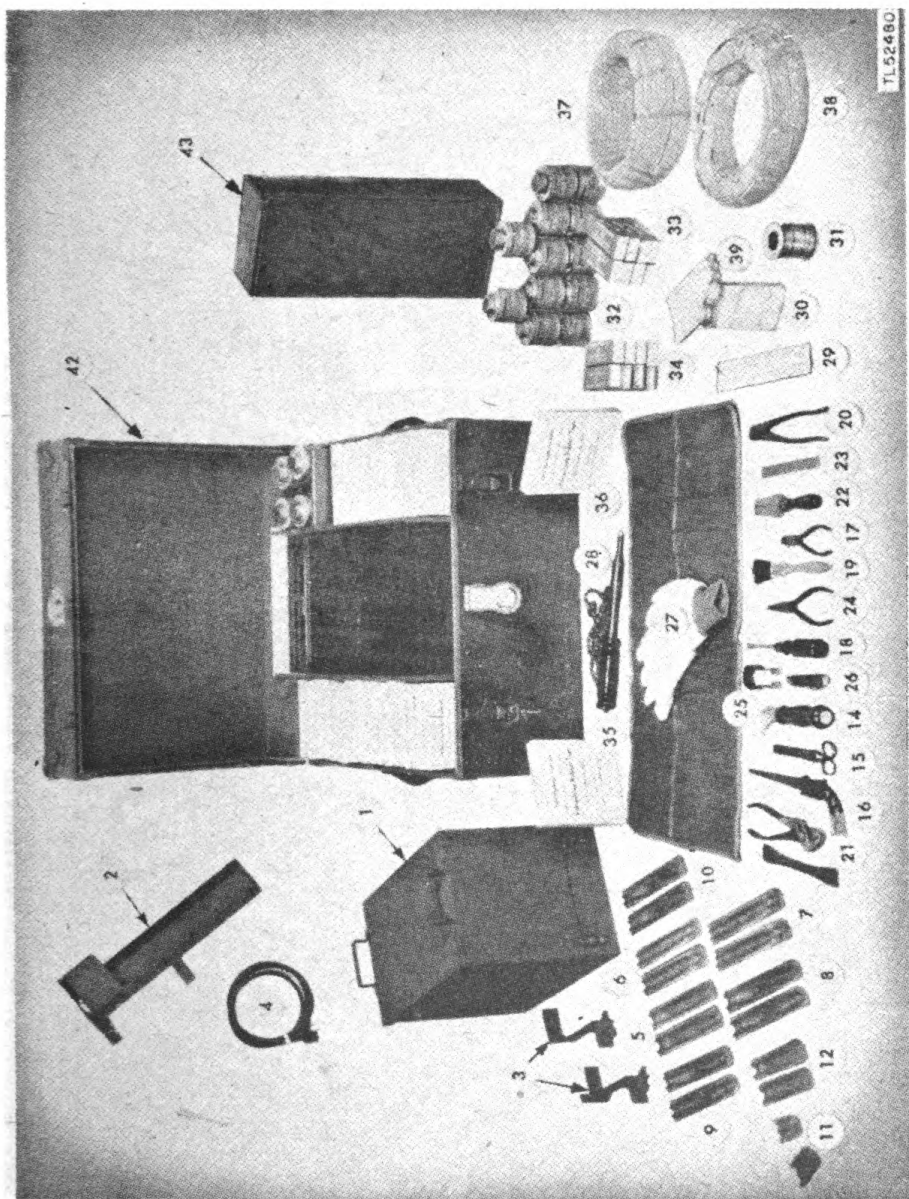

Figure 1. Vulcanizing Equipment TE-54-(*).
e. Insert the cable clamps from the middle compartment in the clamp holders at the corners of the right side of the kit box (figs. 1 and 2). Clamp the cable or cable ends to be processed in the clamps, and process as explained in the following paragraphs.